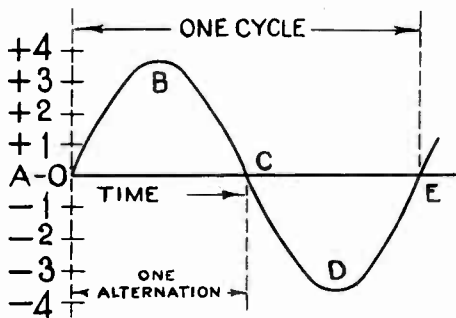

Fig. 12. Graphical picture of one cycle of alternating current.
**21. ALTERNATING CURRENT:** It is perhaps difficult for the average non-technical person to grasp the idea of the flow of alternating current along a wire, but possibly a simple explanation may make this clear. Let us consider a fixed point in a wire carrying an alternating current. Starting at some instant when current just begins to flow, let us observe its strength and direction over a short period of time. The current begins to flow in one direction, gradually increasing in strength to a maximum value, then still flowing in the same direction, it decreases again to zero. Now it begins to increase in strength once more but has reversed its direction, reaches a maximum strength and decreases again to zero. It now reverses once more and the cycle is completed over and over again. A chart showing the cycle of events is given in Fig. 12. Here the flow of current in one direction is drawn